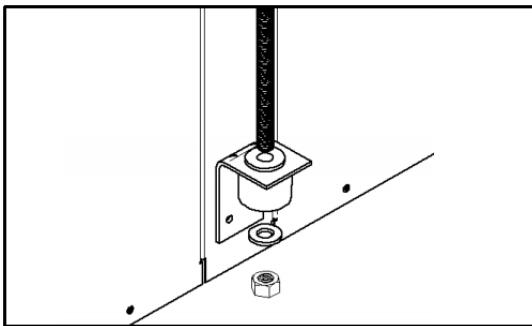

Fig. 8 — Hanging the Unit
3. Install rubber grommet on the bracket as shown in Fig. 8.